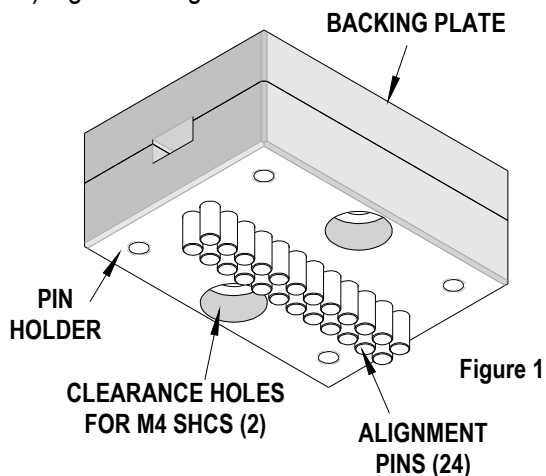

Figure 1
The Insertion Tool is made up of a backing plate, alignment pins, and a pin holder. It can also be mounted to a press using (2) M4 SHCS. This tool measures 43.0mm (1.69 in.) wide by 31.8mm (1.25 in.) deep by 19mm (.75 in.) high. See Figure 1.